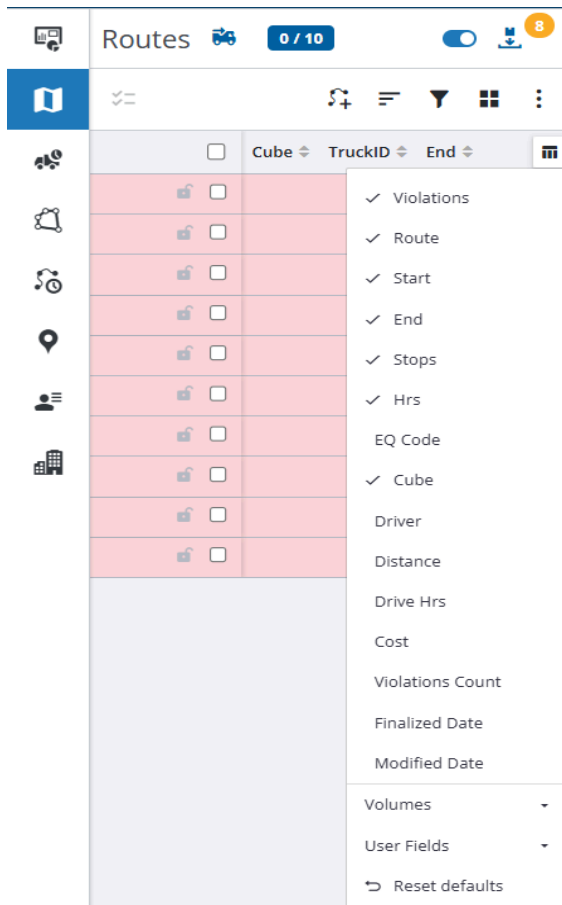

Figure 56 - Route grid configuration
- Click on the Configuration button (scroll to right) to select columns and a number of fields or volumes (see *Figure 56* below). Configured data is retained between sessions.